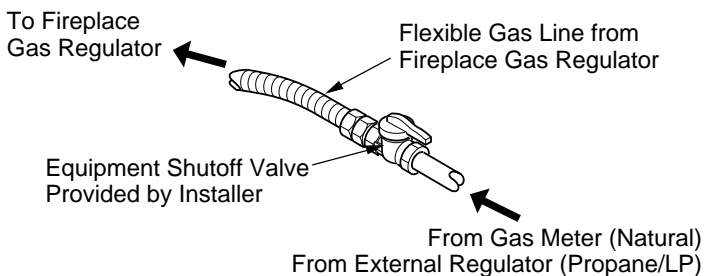

Figure 26 - Attaching Gas Lines Together
NOTICE: Most building codes do not permit concealed gas connections. A flexible gas line is provided to allow accessibility from the fireplace (see Figure 26). The flexible gas supply line connection to the equipment shutoff valve should be accessible.
3. Attach the flexible gas line to gas supply (see Figure 26). Check tightness of flexible gas line attached to gas regulator of fireplace (see Figure 26).